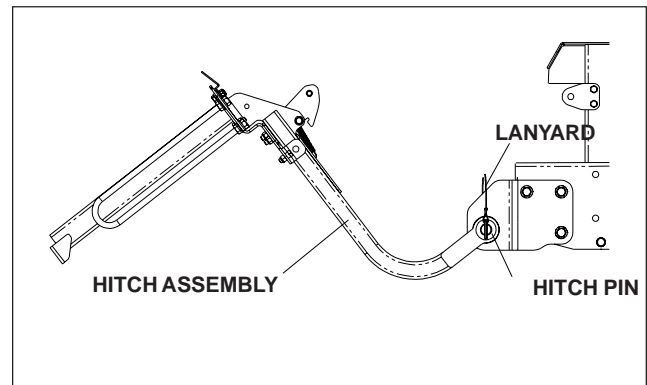

FIGURE 2
5. Move to the rear of the hitch assembly and pick it up towards the rear guard. Secure using straps. Figure 2.